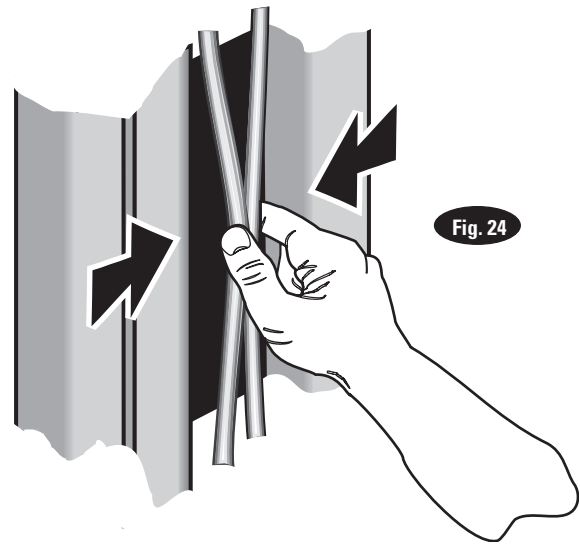

Fig. 24
**21. Equalizer Cable Adjustment:** Raise lift to check equalizer cable tension. Below carriage, grasp adjacent cables between thumb and forefinger, with about 15 lbs. effort you should just pull the cables together, Fig. 24. Adjust at upper tie-offs Fig. 15.